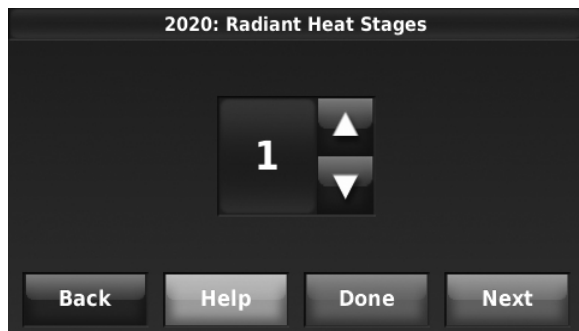

Fig. 98.
2. Select the number of Radiant Heat Stages. See Fig. 98.